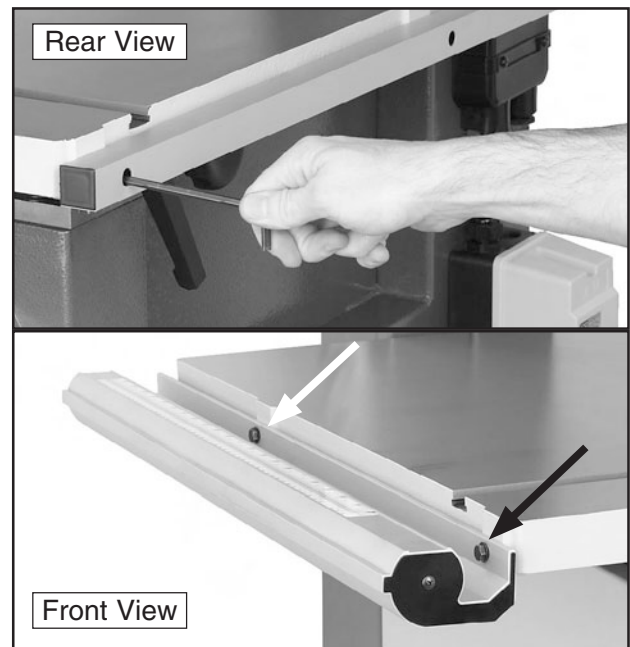

Figure 32. Rail installation.
1. Attach the back square tube to the table with the (2) M6-1 x 16 cap screws as shown in **Figure 32**.
2. Attach the front rail with the (2) M6-1 x 20 hex bolts, 6mm lock washers, and 6mm flat washers as shown in **Figure 32**.